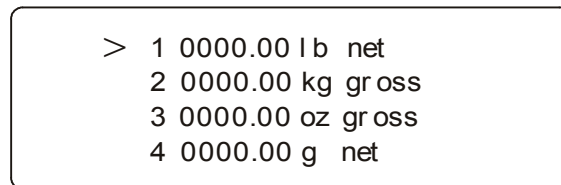

FIG. 2-2 MAIN MENU
- The Summary Screen displays all the available channels with the cursor in front of Channel 1. In our example we use a four channel instrument. (See Fig. 2-2)
calibrate the scale that is connected to Channel 1. (See Fig. 2-2)